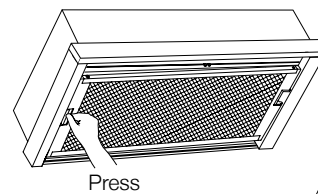

Fig. 1
2. Push in clip on either side to release filter. Fig 1.